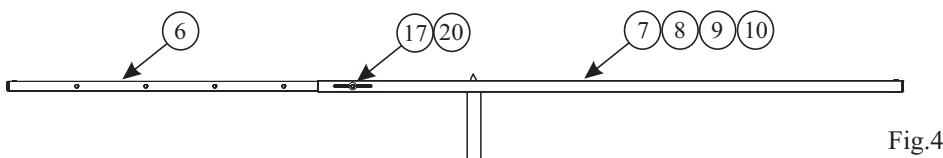

Fig.4
**3** **Assemble Sidebars** - Remove the first bolt from the internal adjuster (6), Insert an internal adjuster into each of the Sidebars (7, 8, 9 & 10). Lining up the bolt hole with the slot in the Sidebar fasten with Bolt (17) and Large Washer (20) (as shown in fig 4). Don't worry at this stage about the exact projection of the goal, any adjustment can be made later.